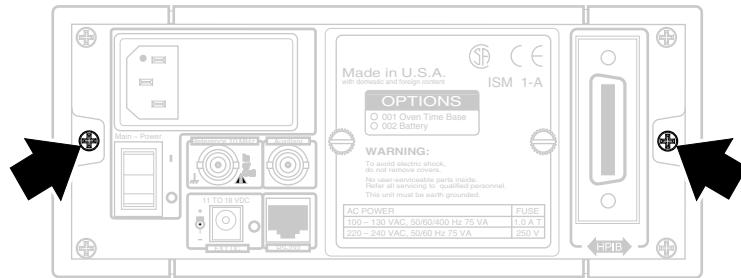

Figure 3-4 Rear Bezel Mounting Screws
- 2 Use a #2 Phillips screwdriver to remove the two 6-32 pan-head machine screws that attach the rear bezel to the rear panel of the Counter (see Figure 3-4).